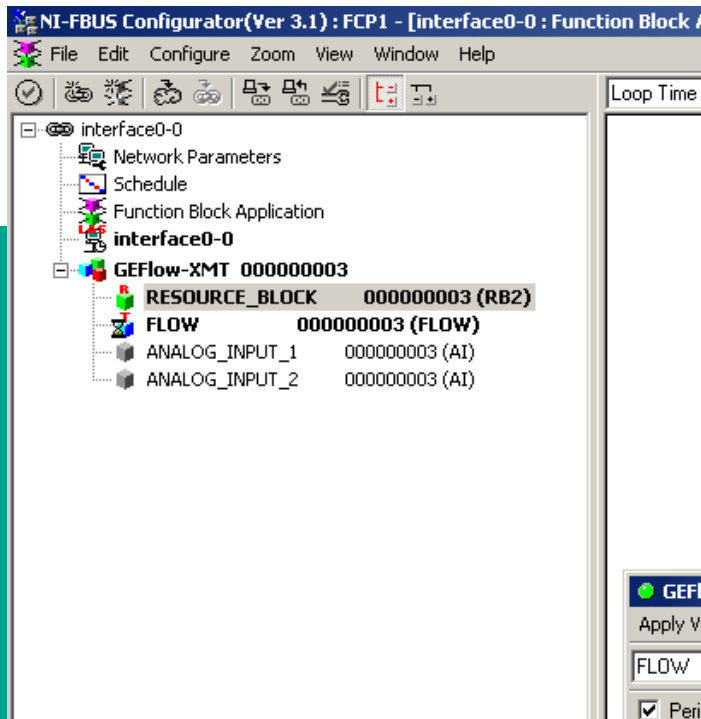

Figure 40: Configuration utility setup example
The following is an example setup using national Instruments configuration utility v3.1. figure 40 shows the configuration utility with a flowmeter on the network (Panametrics Flow-XMT).
1. Double click on the AI block for which you wish to set the units (ANALOG\_INPUT\_1 or ANALOG\_INPUT\_2 in the tree under GEFlow-XMT; see figure 40).
1. Double click on the FLOW transducer block (in the tree under GEFlow-XMT; see figure 40).